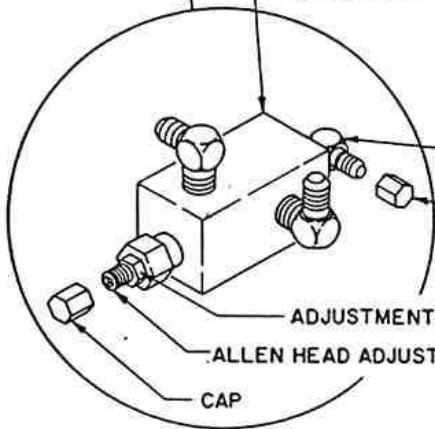

FIG. 4
- { (Figure 4) Remove cap and loosen adjustment nut on relief valve below manifold. Turn allen head adjustment screw all the way clockwise to raise the relief setting to the maximum (DO NOT OVER TIGHTEN).
- { Engage PTO and insure pump flow is 6 to 7 GPM and main relief is set to 2350 psi. With no load on boom, boom up to an angle of 70 degrees. Boom down and note pressure. If pressure reading is not 550 - 600 PSI, the counterbalance valve requires adjustment (Figure 4).
Relief Valve (Fig 4) Setting
- { With no load on boom, boom up to an angle of 70 degrees. Boom down and note pressure. If pressure reading is not 750 - 800 PSI, the pressure relief valve requires adjustment (Figure 4).